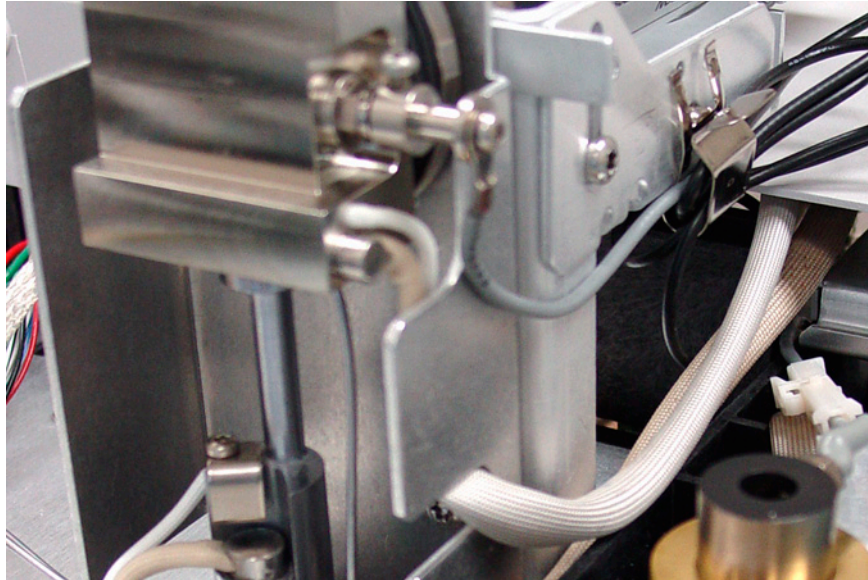

Figure 37 Route the heater/sensor cables
- 1 Route the heater/sensor cables out of the bracket (Figure 37).